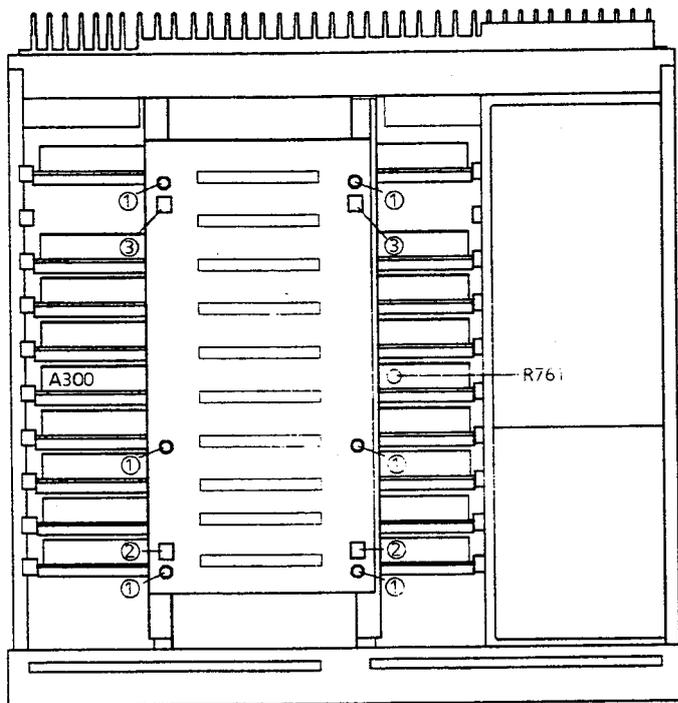

Fig. 4-4 Opened instrument seen from below
- ▶ Call the *IF Gain Adj* function in the self-test menu and switch it on by pressing one of the two ENTER keys. The level indication is to be set to  $30 \text{ dB}\mu\text{V} \pm 0.2 \text{ dB}$  by turning the potentiometer R761 at the bottom of the I/Q demodulator module (cf. fig. 4-4).